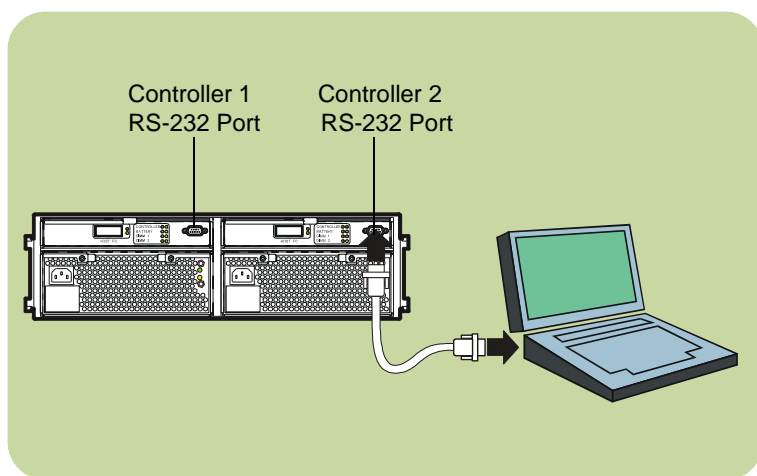

Fig. 41. Connecting the serial cable
1. Connect one end of the null-modem serial cable to the controller 1 RS-232 port or the controller 2 RS-232 port on the array rear panel (see Fig. 41).